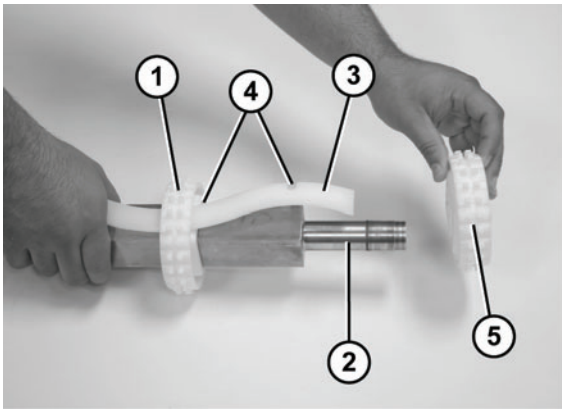

Figure 70
1. Slide the first sprocket (**Figure 70, item 1**) onto the drive spindle (**Figure 70, item 2**).
2. Insert the sprocket alignment bar (**Figure 70, item 3**) into the first sprocket and align the sprocket with the notch (**Figure 70, item 4**) in the sprocket alignment bar.
3. Slide the remaining sprockets (**Figure 70, item 5**) onto drive spindle and align each sprocket with the notches (**Figure 70, item 4**) in the sprocket alignment bar.